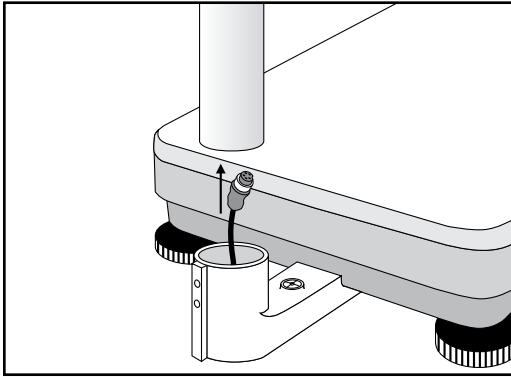

Figure 3
7. Feed the data cable from the Base Bracket through the Tower. (See Figure 3)